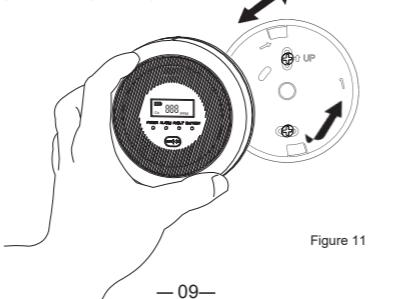

Figure 11
1) Turn the detector anticlockwise to remove it off the mounting bracket (refer to Figure 11). Take out the drained batteries.